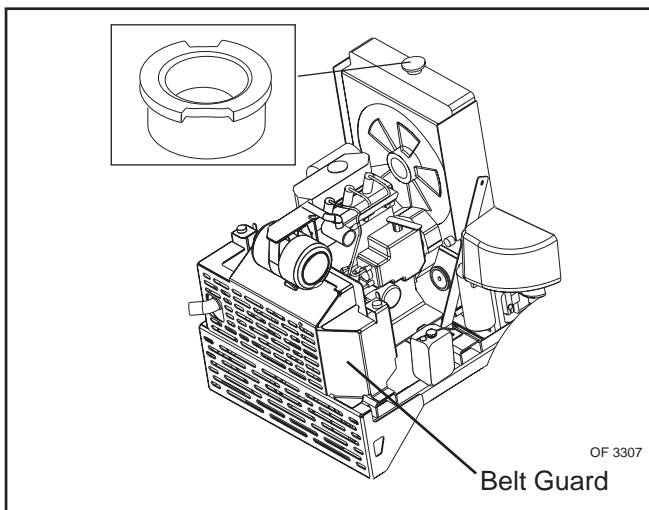

Figure 12
3. Remove belt guard from rear of unit (Figure 12).
5. Install belt guard on rear of unit (Figure 12).